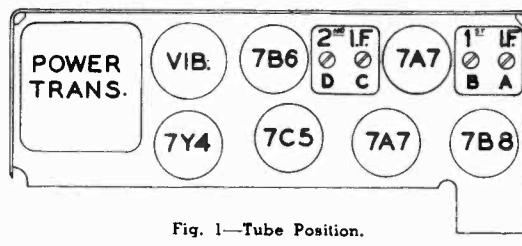

Fig. 1—Tube Position.
**TUBE COMPLEMENT:** 7A7 R.F., 7B8 Converter, 7A7 I.F., 7B6 Detector, A.V.C., 1st Audio, 7C5 Beam Power Output, 7Y4 Rectifier. Fig. 1.